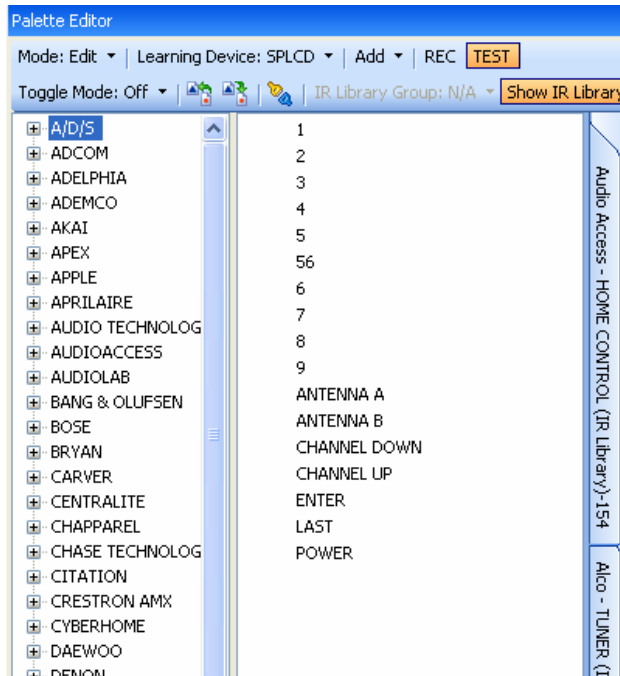

Figure 20
2. Locate and Select (single click) the desired BRAND as shown in **Figure 20** (i.e. Sony, Panasonic etc). A list of Components will appear. (See later section for 'Adding Brands'.)
1. Locate and Select (single click) the desired BRAND as shown in **Figure 20** (i.e. Sony, Panasonic etc). A list of Components will appear. (See previous section for 'Adding Brands'.)